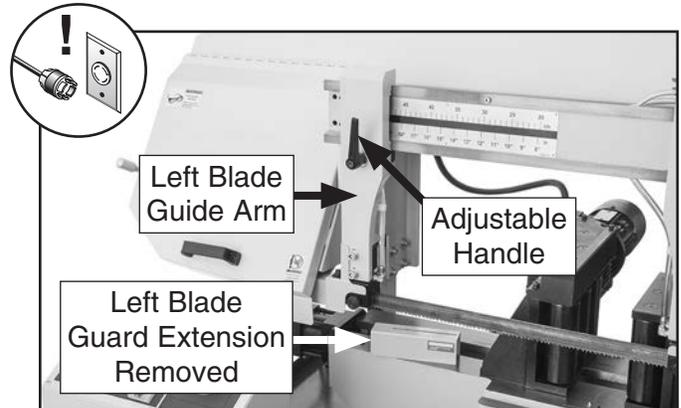

Figure 34. Left blade guide arm positioned for blade tensioning.
3. Remove left blade guard extension, as shown in **Figure 34**.
4. Loosen adjustable handle on left blade guide arm and move arm as far left as it will go, as shown in **Figure 34**. Tighten adjustable handle to secure arm position.